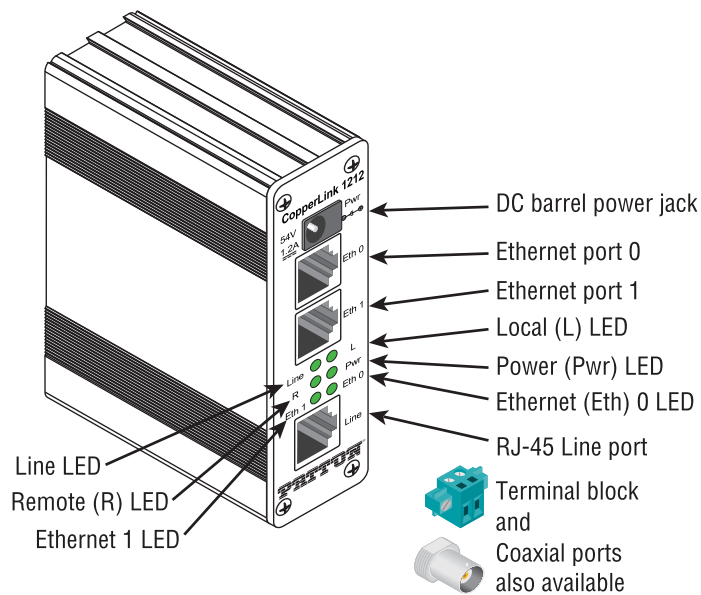

Figure 2. CL1200E front panel
The following describes the ports and indicators for the CL1200E (see figure 2):
2. The CL1200E is equipped with an RJ-45 interface jack (see figure 2 on page 15)